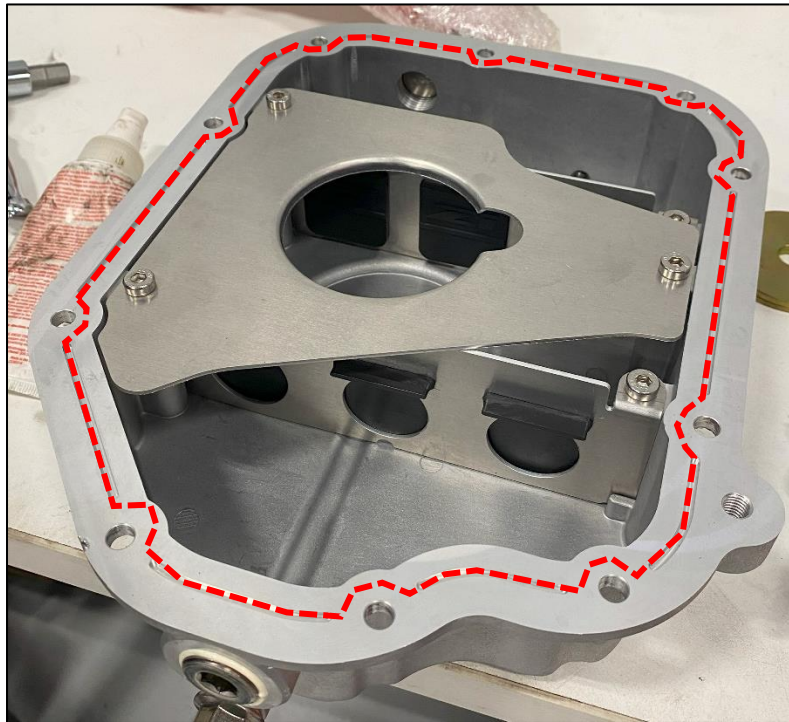

Figure 8
12. Using RTV Gasket Maker, run a thin bead around the mating surface of the new Oil Pan. Be careful not to use too much as it can spill into the engine. *Figure 8.*